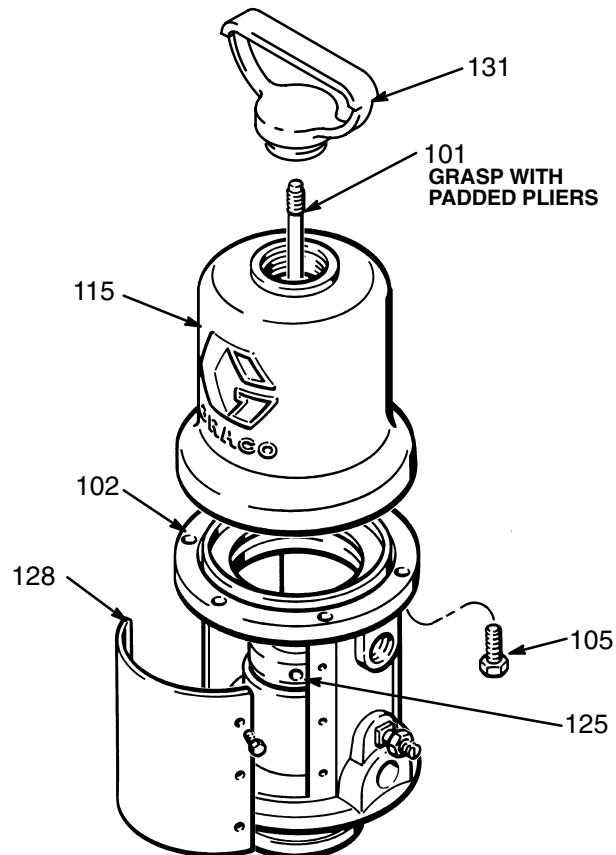

Fig 3
2. If the air transfer valves do not reseal, screw the cap nut (131) out of the cylinder (115), pull up on the trip rod (101) and screw the cap nut back into the cylinder. See Fig 3.
3. Remove the warning plate (128) from the motor base. See Fig 3.
4. Use a 1/4 in. punch to unscrew the bearing (125). See Fig 3.
Always keep fingers clear of the toggle assemblies (B) to avoid pinching or amputating them. See Fig. 3.
3. From below the motor base (102), push up the piston rod. Unscrew the cap nut (131) just until you can pull up the cap nut and then grasp the trip rod (101) with the special padded pliers. Remove the cap nut. See Fig 3.
4. Remove the screws (105). Carefully pull the cylinder straight up off of the piston. See Fig 3.